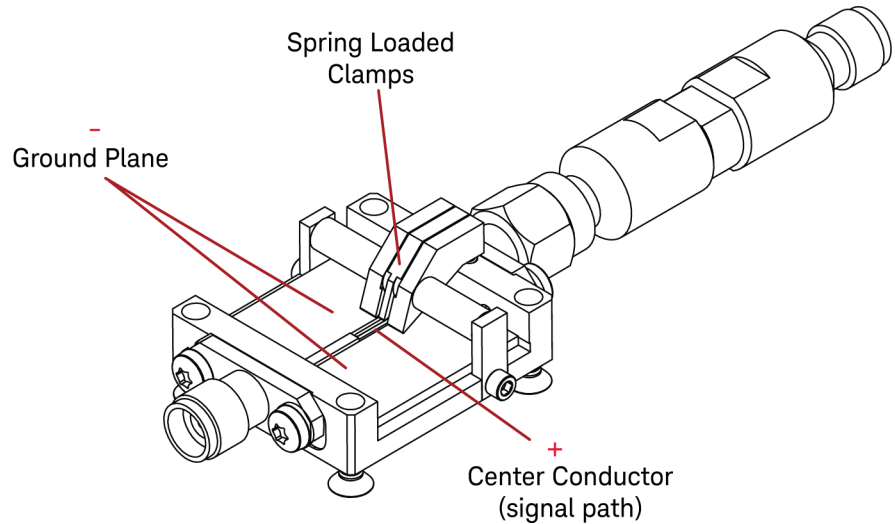

Figure 15 Signal Path and Ground Locations on PV Fixture
- b Place the positive (+) tip of the probe (red alligator clip) on the center conductor (signal path) of the PV fixture. The center conductor (signal path) is indicated in Figure 15.